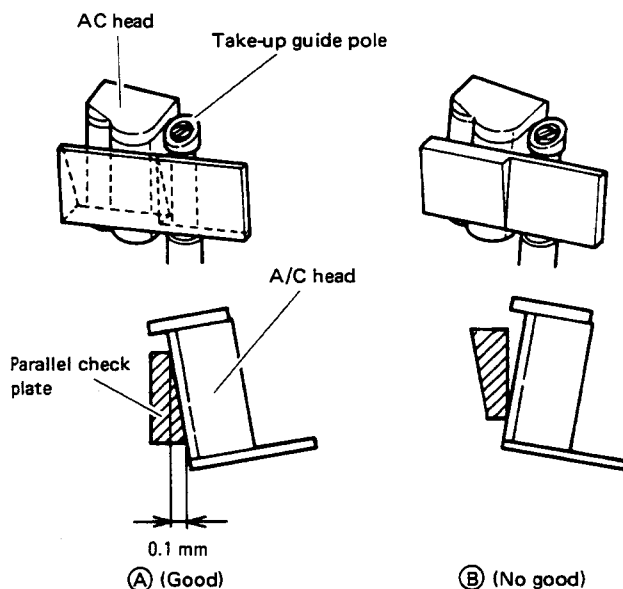

Fig. 2-24 A/C head parallel
1. As illustrated in Fig. 2-24, set the parallel check plate (PUJ50204) gently against the A/C head take-up guide pole. Confirm that inclination A is less than 0.1 mm.
2. Set the flat portion of the check plate gently against the A/C head. Confirm absence of space at top, as shown by (B).